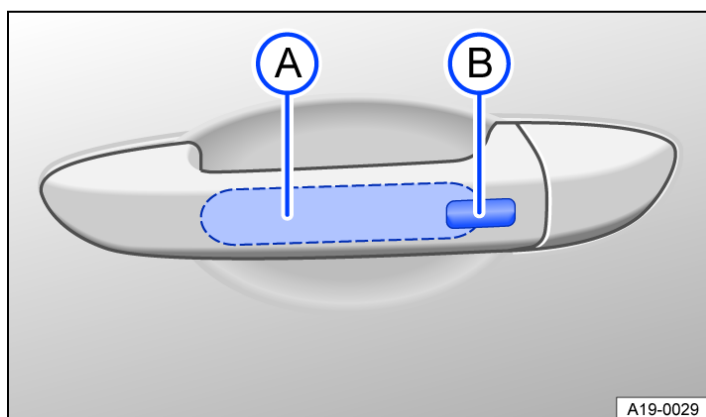

Fig. 2 In the door handle: sensors.
- Touch the sensor surface → Fig. 2 **A** on the inside of the driver or front passenger door handle.
- Touch sensor → Fig. 2 **B** on the outside of the driver or front passenger door handle.
— Then touch the sensor on the outside of the door handle → Fig. 2  once within five seconds. Do not put your hand around the door handle when doing this.
— Place a finger on the sensor of the driver's or front passenger door handle → Fig. 2  for a few seconds.